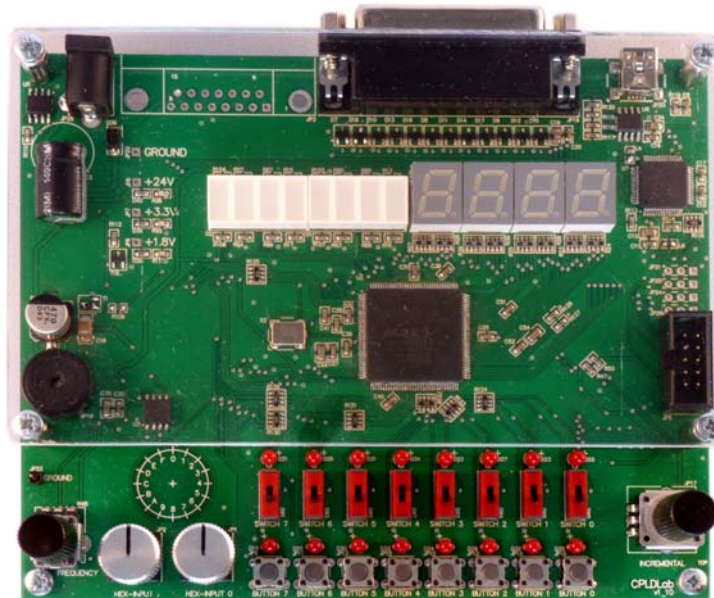

Figure 1 Rapid Prototyping Board
View of the Rapid Prototyping (RP) board is shown in Fig. 1. Operation Modes: